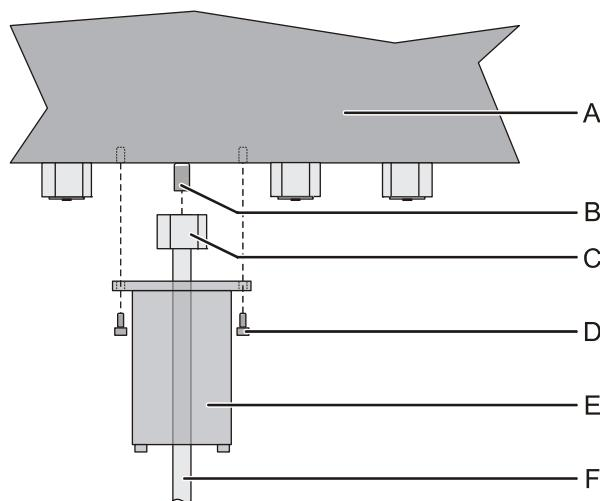
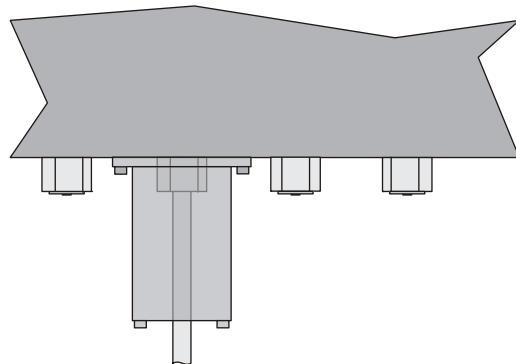

Figure 144: Attaching the halogen protection cover
Figure 145: Halogen protection cover on laser housing
The locating flange on the halogen protection cover has to point in the same direction as the nut on the halogen line (see Figure 144).
Key to Figure 144:
8. Fit the nut on the halogen gas line (see Figure 144, C) onto the appropriate Gyrolok fitting (B) on the laser device and tighten until finger-tight.
10. Carefully slide the halogen protection cover (see Figure 144, E) along the halogen gas supply line (F) until the locating flange is located against the laser device housing (A).
11. Use the 3 mm allen key and the securing screws provided (see Figure 143, D and Figure 144, D) to tighten the halogen protection cover onto the laser device housing (see Figure 145).